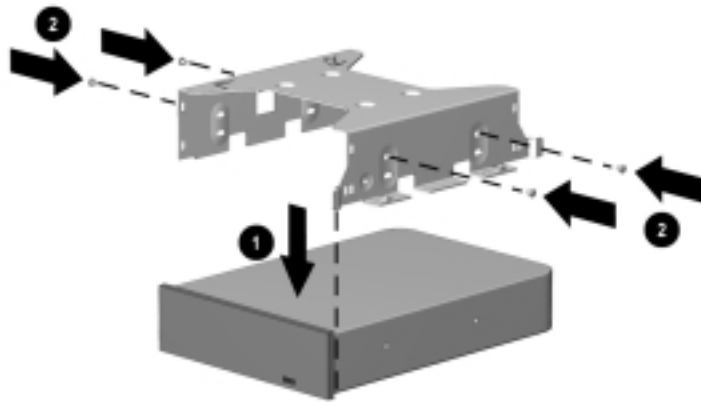

Figure 5-17. Attaching the Bezel Cage to the Half-Height Drive
10. Align the front cover of the half-height drive with the tab on the front of the bezel cage ❶ (Figure 5-17).